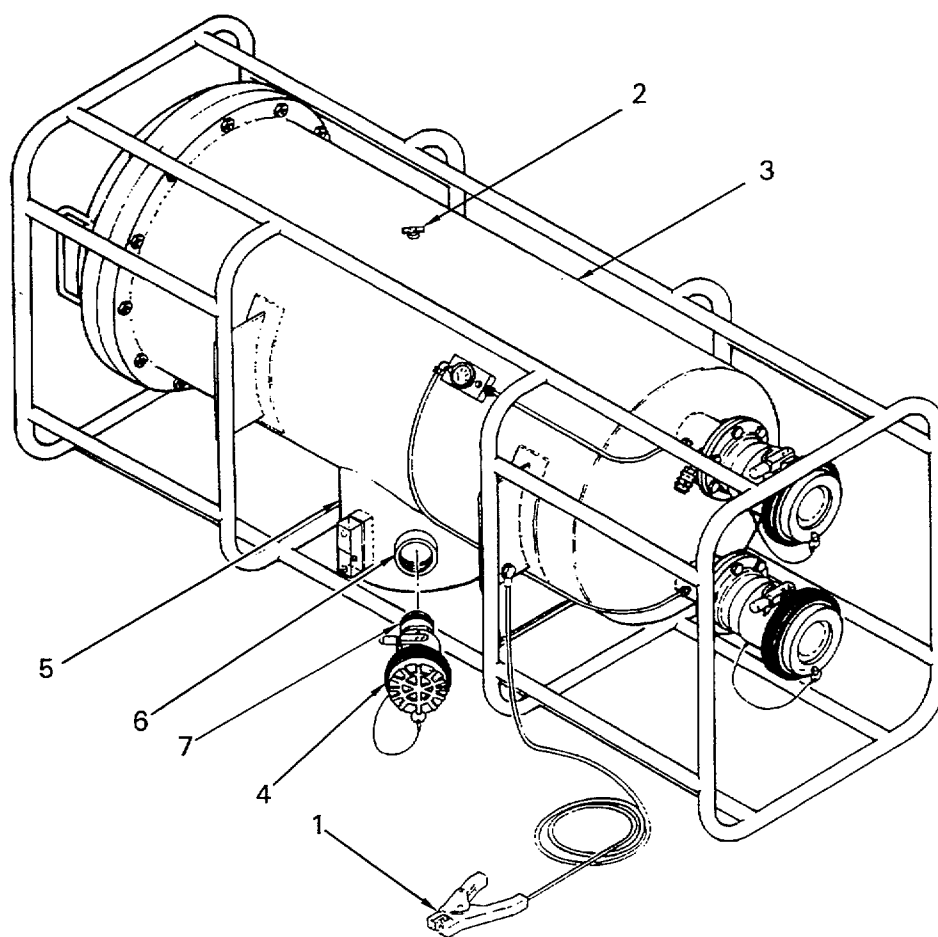

Figure 4-6. Defueling Coupling Assembly
a. Removal. (Figure 4-6)
- (1) Connect the liquid fuel filter-separator grounding cable (1) to a ground rod.
- (2) Depress and latch open the manual vent valve (2) to relieve any pressure from filter vessel (3).
- (3) Place drain pan beneath defueling unisex coupling (4). Open unisex coupling valve and drain residual fuel from filter vessel (3).
- (4) Dispose of fuel in accordance with local SOP.
- (5) Remove defueling coupling assembly (4) from filter vessel sump (5).
b. Installation. (Figure 4-6)
- (1) Thoroughly clean threads of defueling coupling boss (6) on filter vessel sump (5).
- (2) Wrap male pipe threads (7) of defueling coupling assembly (4) with 3-4 complete turns of teflon tape in a right hand (clockwise) direction. Apply an even coat of thread sealant over the teflon tape.
- (3) Install defueling coupling assembly (4) in filter vessel sump (5).
- (4) Close manual vent valve (2).
- (5) Place grounding cable in storage location.